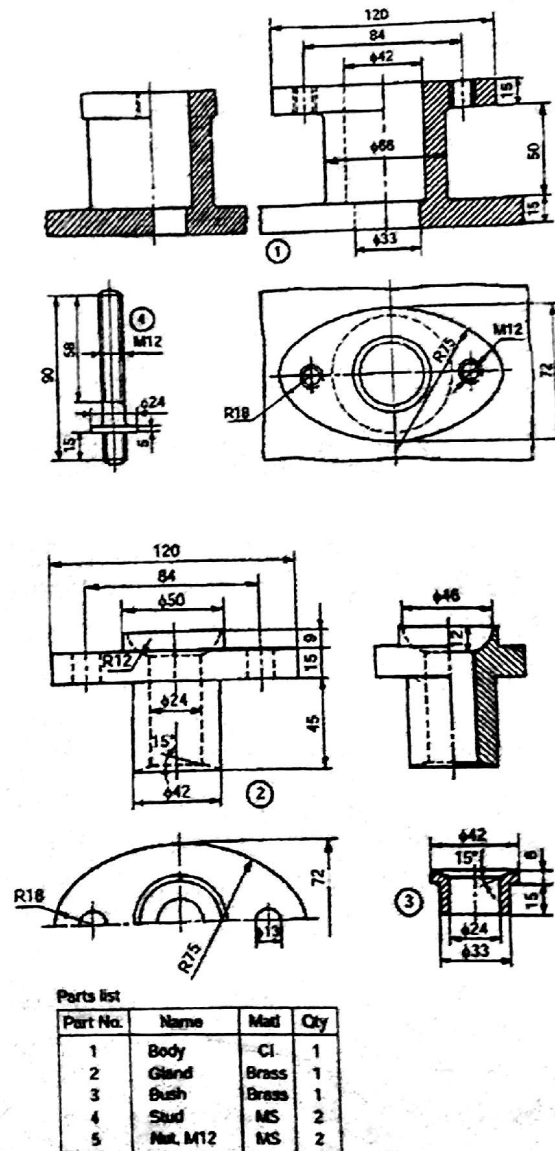

Fig.1
- Q.2 Stuffing box is used to prevent the loss of fluid through the turning part (mainly shaft) of machinery. Various parts of stuffing box are shown in Fig.1. Draw the half sectional front view of assembled stuffing box. (Marks: 17)